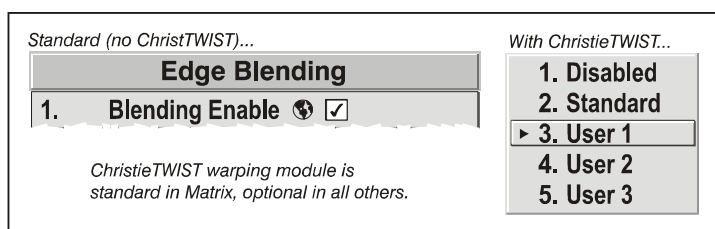

Figure 3-51 Edge Blending Submenu
**NOTE:** If the optional Christie TWIST™ module is installed, a drop-down list replaces this check box (see Figure 3-51). Select the desired user-defined blend created for your current warp; no further blending at the projector is required. Or, to simply edge blending a non-warped flat image, select "Standard" and continue with Step 3.